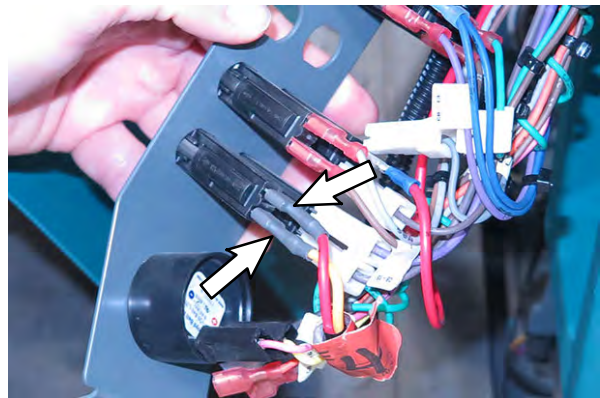

FIG. 33
- 18.Connect blue spotlight harness (3) T1/T2 leads to the 2.5- Amp circuit breaker (14) installed in the previous step. (Fig. 33)